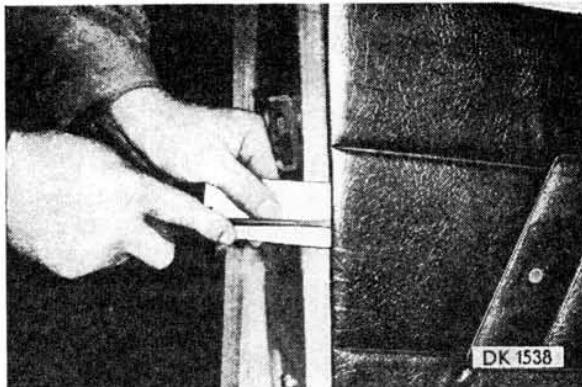

Fig. 14.5/1 - Prising off Door Panel
The inner door mechanisms, locks, window wind-up mechanisms, door limiters, and windows can be removed and/or adjusted only after having first removed the inner door handles, the arm-rests, the door pulls (of Škoda 105 S), and the door lining panel including the insulating liner – see Fig.14.5/1.
- Remove the door lining panel. Using a suitable tool with a pad (see Fig. 14.5/1), remove the fastening clips (flexible spacing pins) beginning midway of the door panel (of the front and rear doors), and proceed along its entire circumference.
When it is raining or when washing the car, water runs down the glass and penetrates into the inner space of the door. The foil is supposed to prevent the forming of under-pressure in the car interior and to prevent the water from soaking the interior trims and running down into the car. Therefore, it has to be stuck on by rubber cement as shown in Figs. 14.5/2 and 14.5/3 (cross hatching). First slip the lower part of the insulation (foil), the inner end, inside the door, and then apply a sealing compound on to the door inner metal-sheet panel and the insulation as indicated in the illustration (black dots).